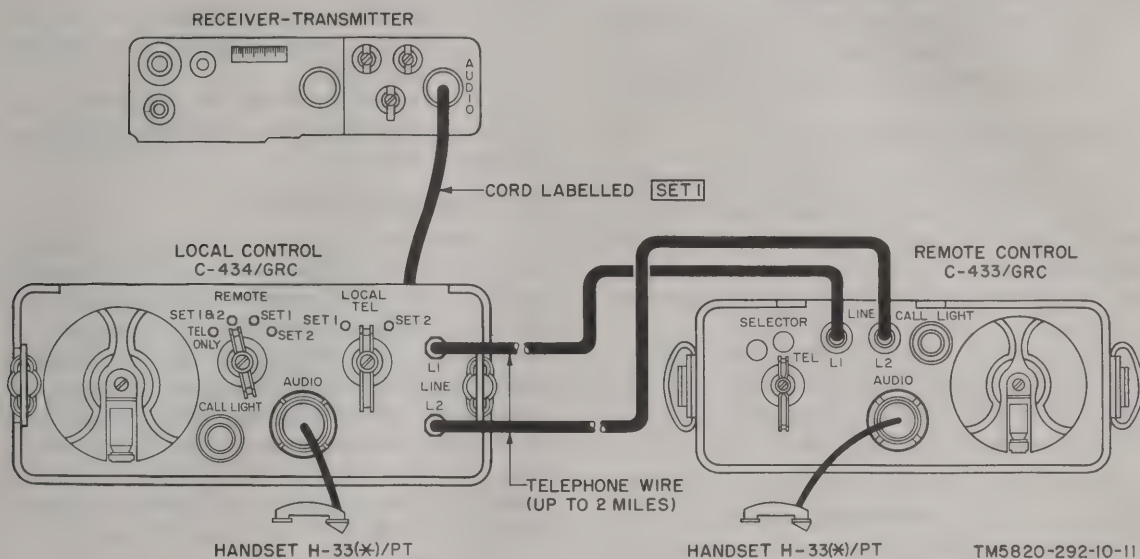

Figure 11. Control Group AN/GRA-6, controls and connections.
21. Remote Control Operation Using Control Group AN/GRA-6 (fig. 11)